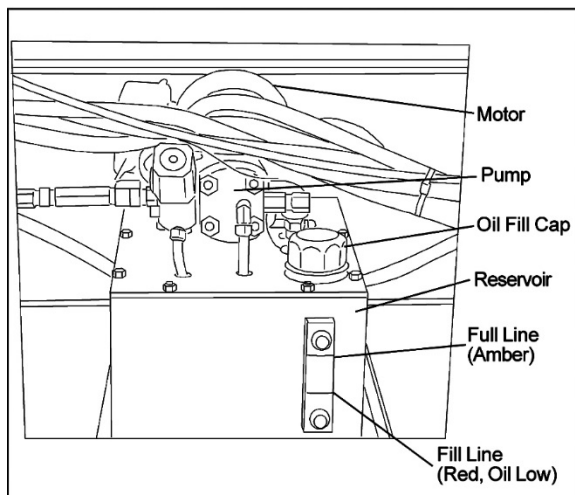

Figure 16
2. Check oil level (refer to Figure 16). If level is below the yellow (upper) line, the reservoir should be filled.